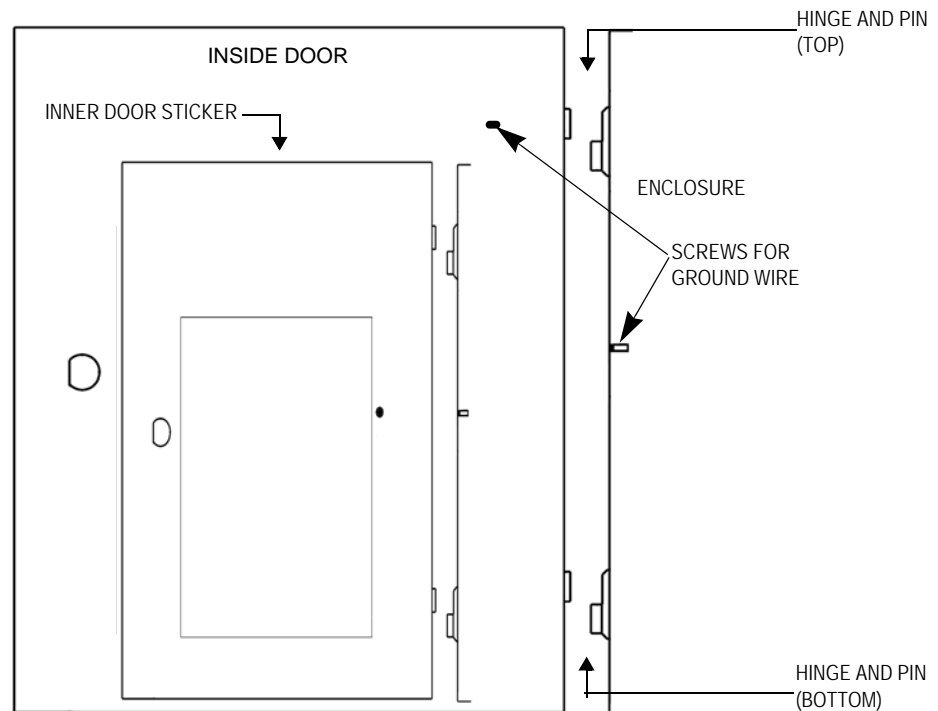

Figure 2. Enclosure Door and Hinges
1. **For KT-NCC UL Cabinet only** - Remove the ground wire from the screw on the door, see Figure 2 on Page 10 below.